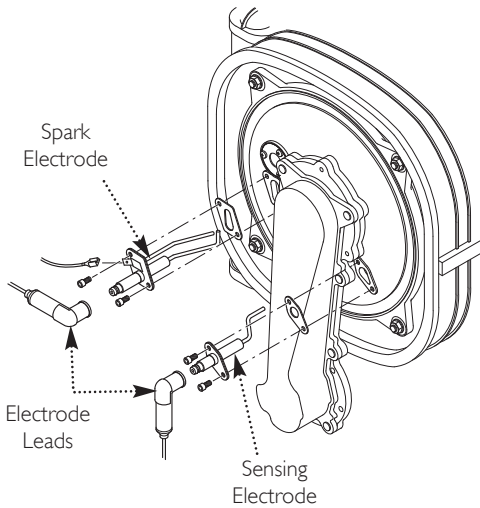

Fig. 61
13.2 Spark and Sensing Electrodes (Fig. 61)